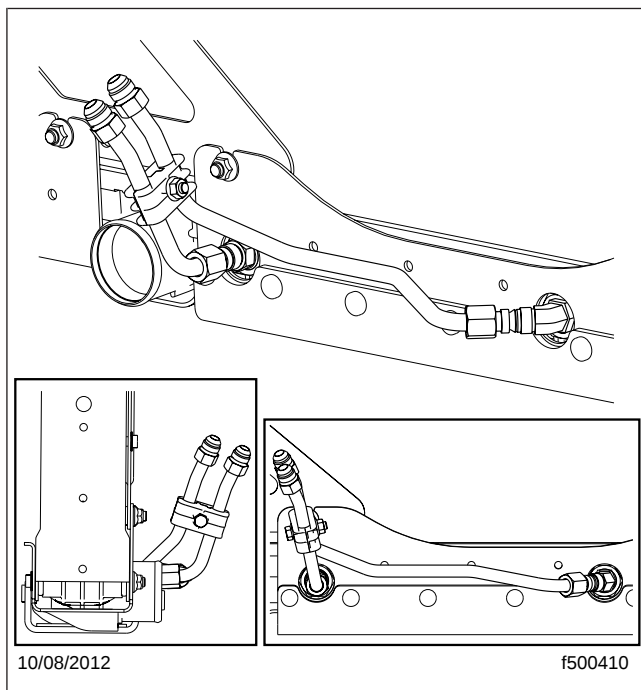

Fig. 12, Transmission Cooler Jumper Line Installation
32. Install the new transmission cooler jumper lines on the radiator. See Fig. 12.